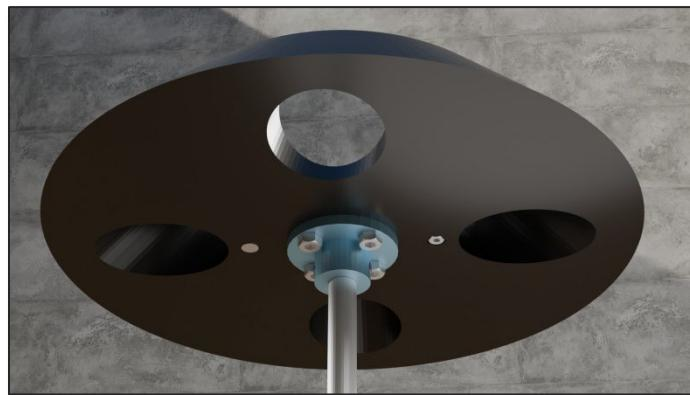

Figure S38: Sliding on the test tube holder onto the shaft so that is just above the hall sensor.
STEP 6: [S3: 10, Assembled test tube holder] Now we will take the finished assembled test tube holder and slide it down onto the shaft as we see in Figure S38. The goal is to be about 1-1,5 mm above the Hall sensor, and there fasten the flange secure bolts (S3:10) so that the test tube holder is safely and stably secured on the shaft at that position.